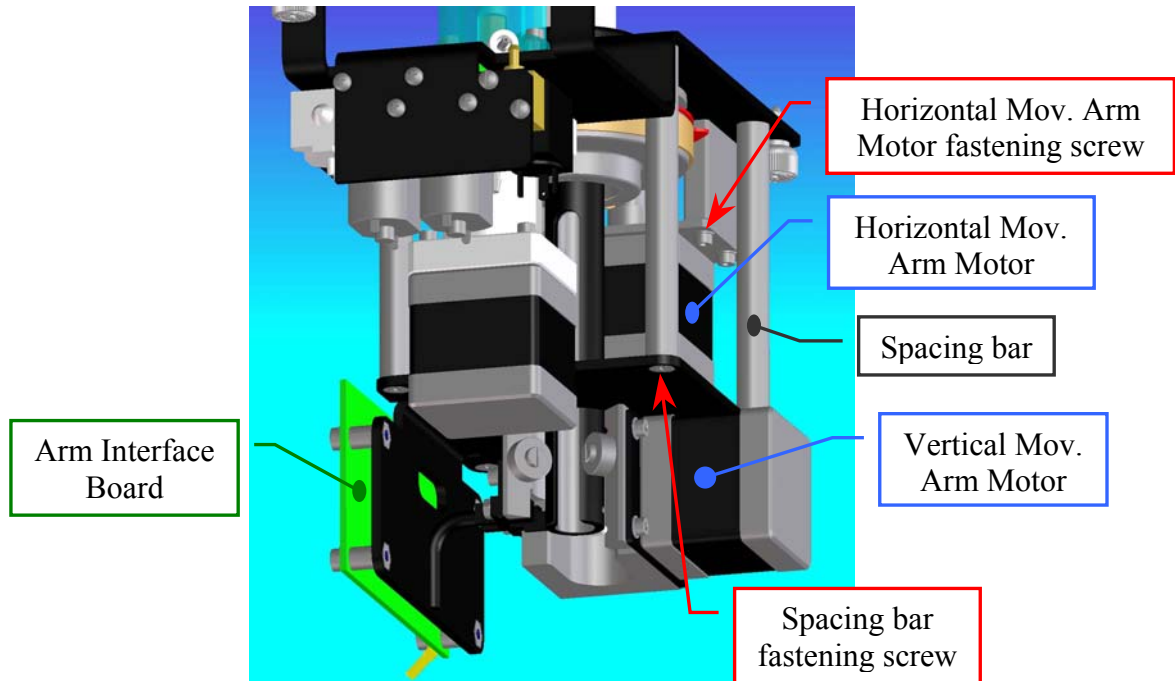

Fig. 12 – Horizontal Mov. Arm Motor fastening screws
3. Unscrew the four fastening screws of the Horizontal Mov. Arm Motor (**Fig. 12**).